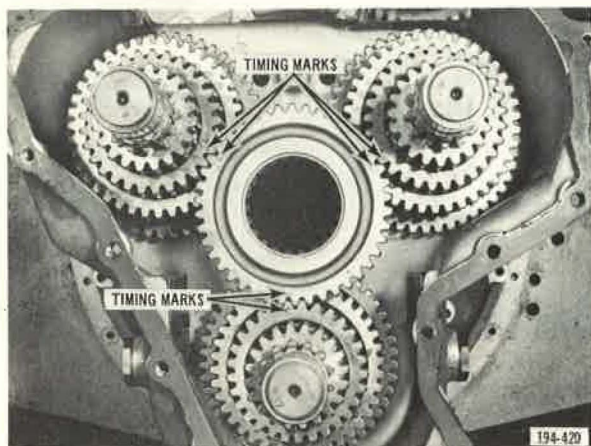

Figure 38. Front Mainshaft Third Speed Gear Temporarily Installed
3. Temporarily install front mainshaft third speed gear so that the three alignment "O" marks on face of gear mate with the alignment "O" marks on the countershaft third speed gears. See Figure 38.